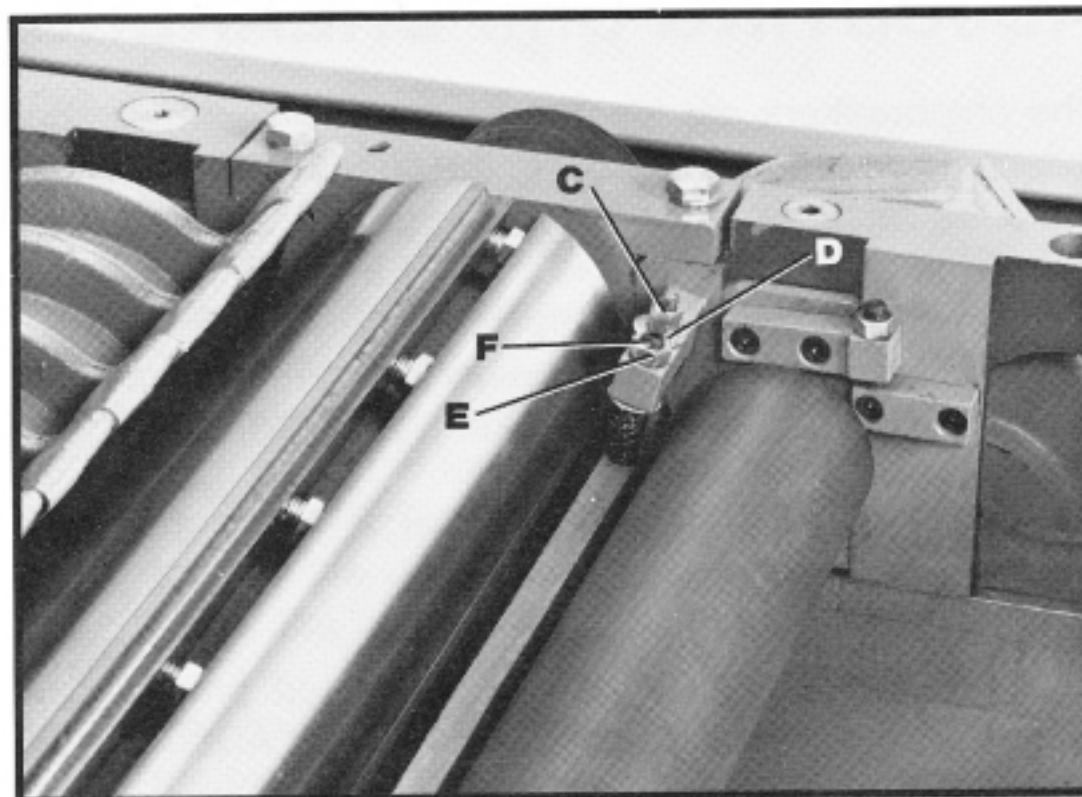

Fig. 27
8. If an adjustment to the height of the pressure bar is necessary, loosen locking nut (C) Fig. 27, and turn adjusting nut (D) until the bottom of the pressure bar just touches the gage block. Repeat at opposite end of pressure bar.
9. The spring tension of the pressure bar can be adjusted by loosening locking nut (E) Fig. 27, and turning adjusting screw (F) on both ends of the pressure bar until desired spring tension is obtained. Tighten lock nuts (C) and (E) after adjustments are made.